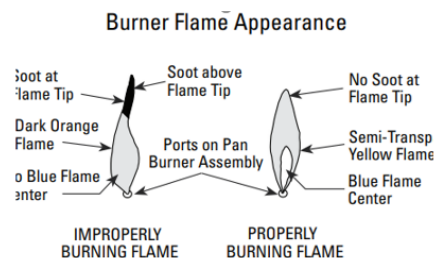

FIGURE 71
The system has six (6) flame levels. See (**Figure 71**) for an example. With the system on, and the flame level at the maximum in the appliance, pressing the Down Arrow Key once will reduce the flame height by one step until the flame is turned off. The Up-Arrow Key will increase the flame height each time it is pressed. If the Up Arrow Key is pressed while the system is on, but the flame is off, the flame will come on in the high position (**Figure 69**). A single "beep" will confirm reception of the command.
Adjusting the appliance to cause the flames to turn orange sooner may result in poor combustion, sooting and a hazardous situation. See (**Figure 71**) showing proper flame appearance.